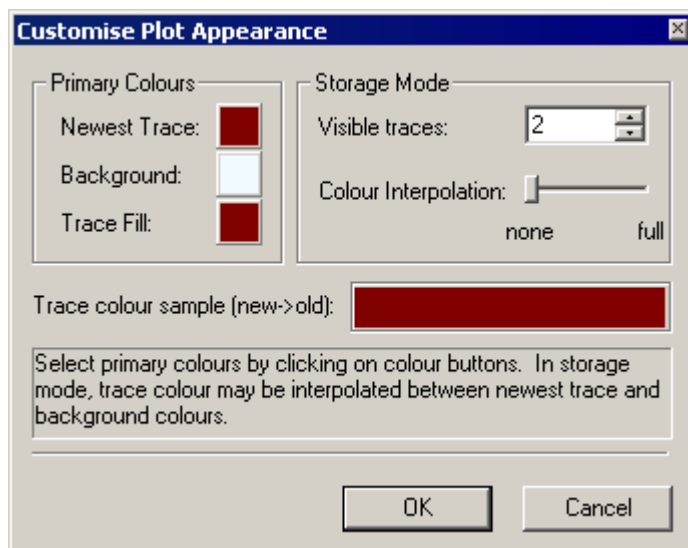

Figure 6-4 The Customise Plot Appearance Dialog
*The Customize Plot Appearance dialog is displayed (Figure 6-4).*